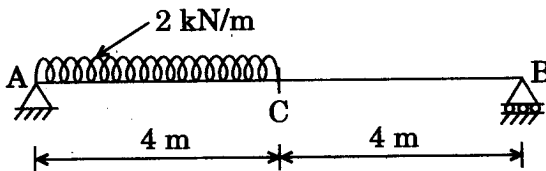

Figure 4
6. (a) Draw SFD and BMD for the beam shown in Figure 4. Also calculate the location and magnitude of maximum BM. 7